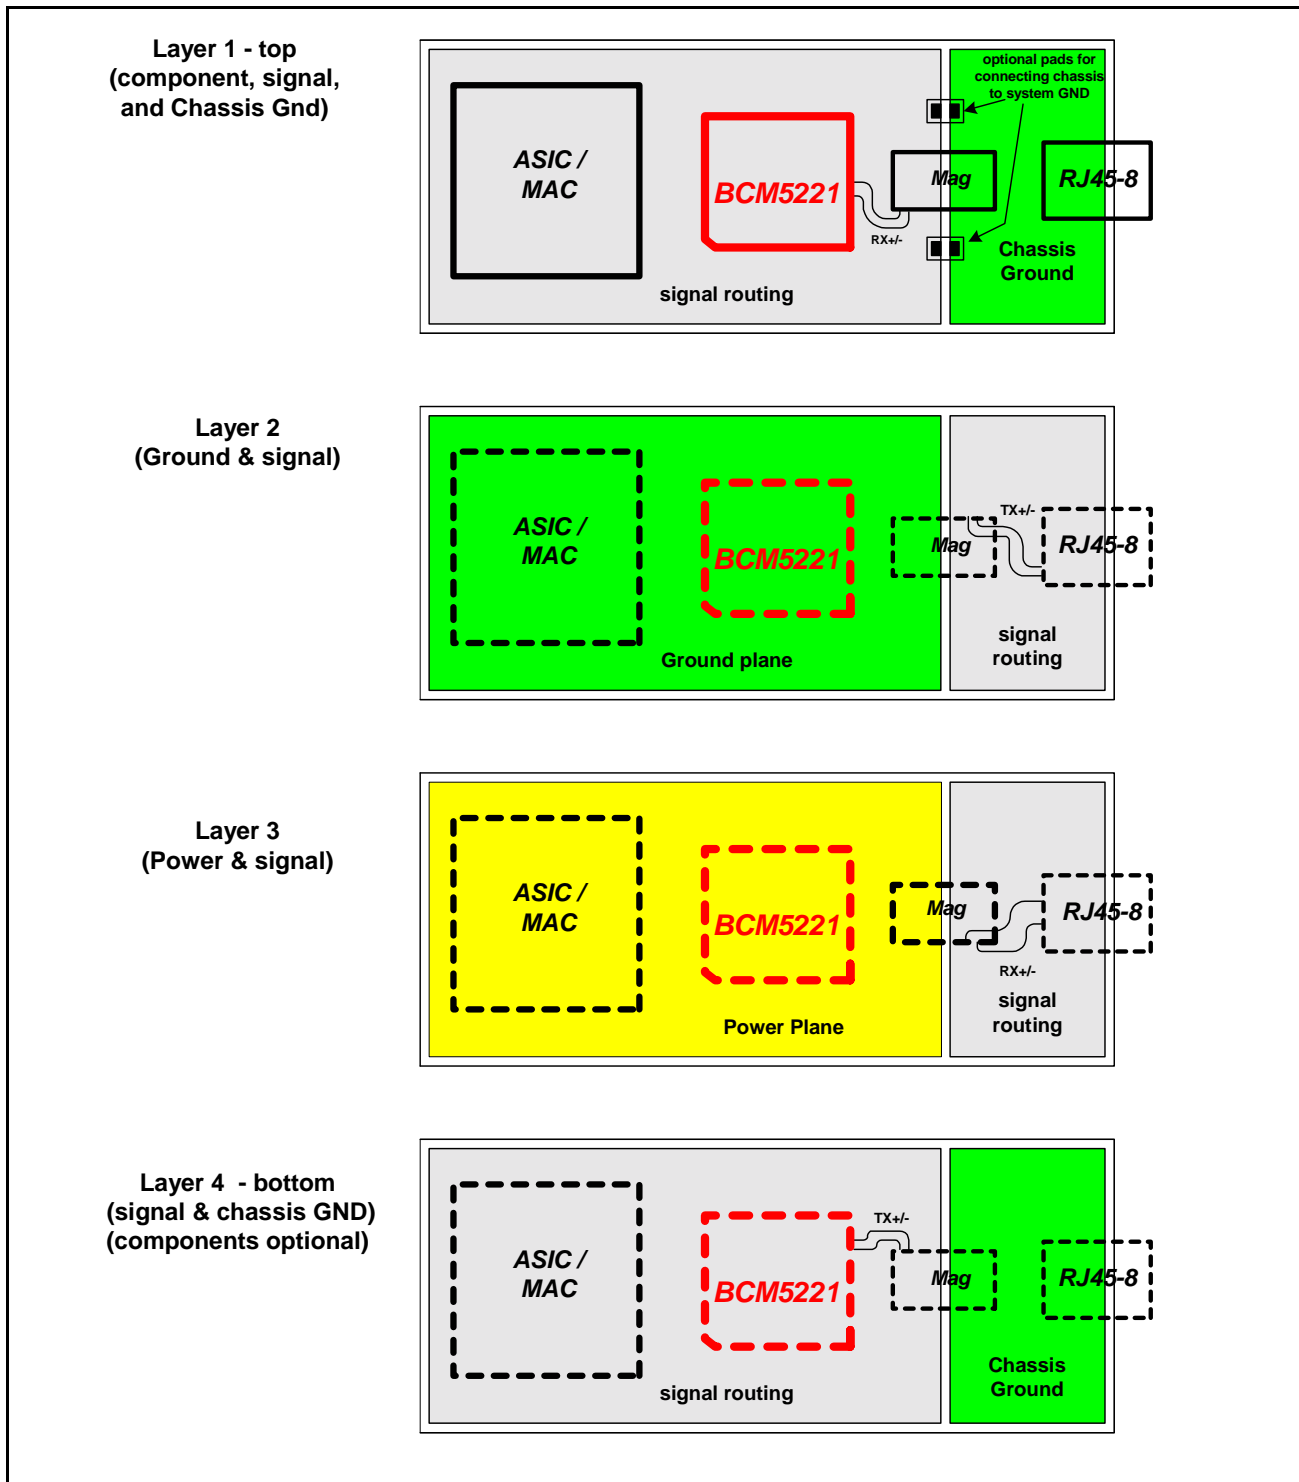
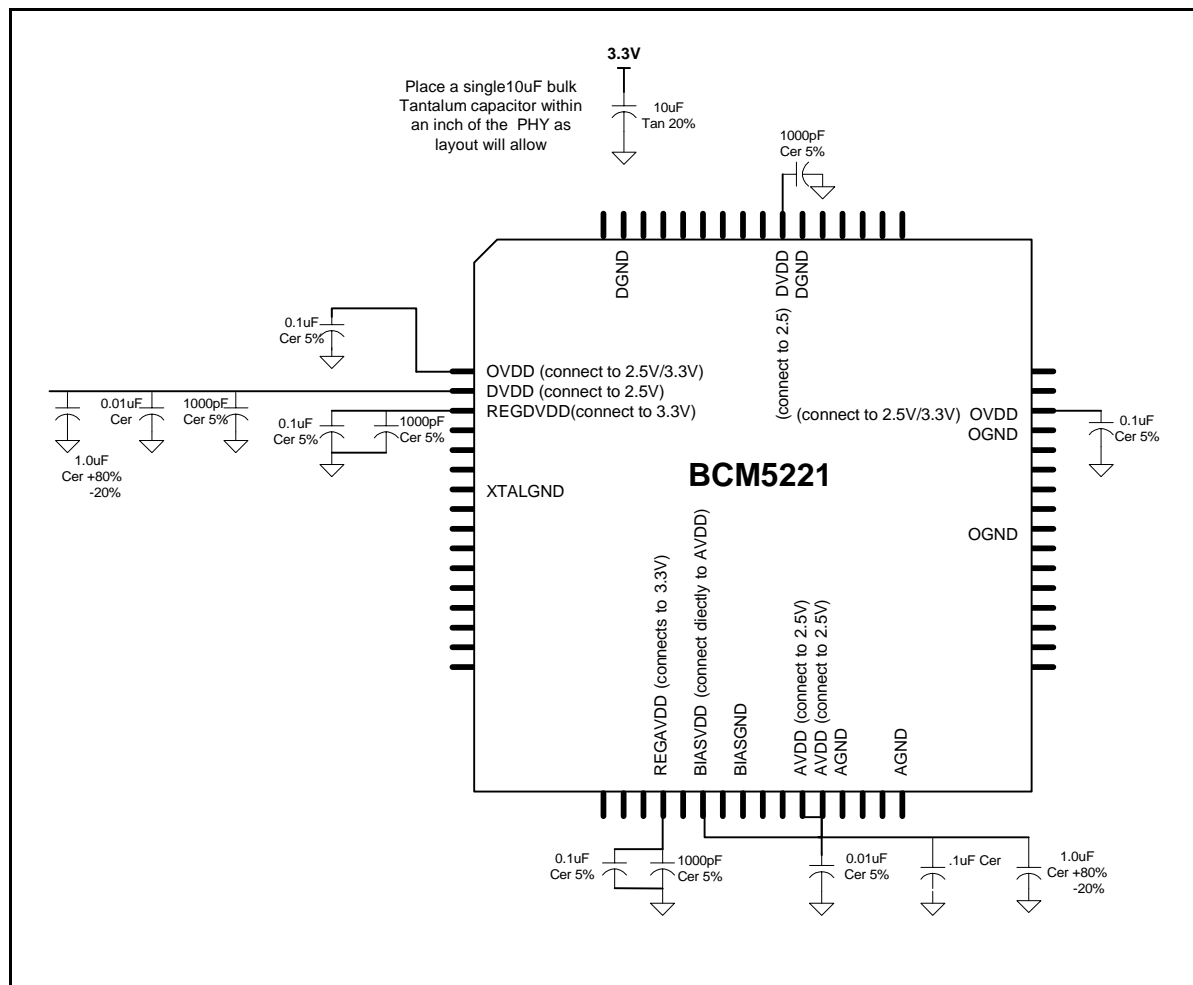

Figure 10: Typical Layer Allocation (BCM5221)
Figure 11: BCM5221 Relative Placement of Filter Components
**Board Layer Allocation.** Figure 10 on page 19 illustrates one option for board layer allocation. The figure gives an example based on a single VDD and single Ground plane. Of course some applications will require a second VDD plane in order to accommodate a second power rail.
**Power Supply Filter Component Placement.** Power supply filter component placement is illustrated in Figure 10 and Figure 11. Use these general placement guidelines to ensure optimal performance.